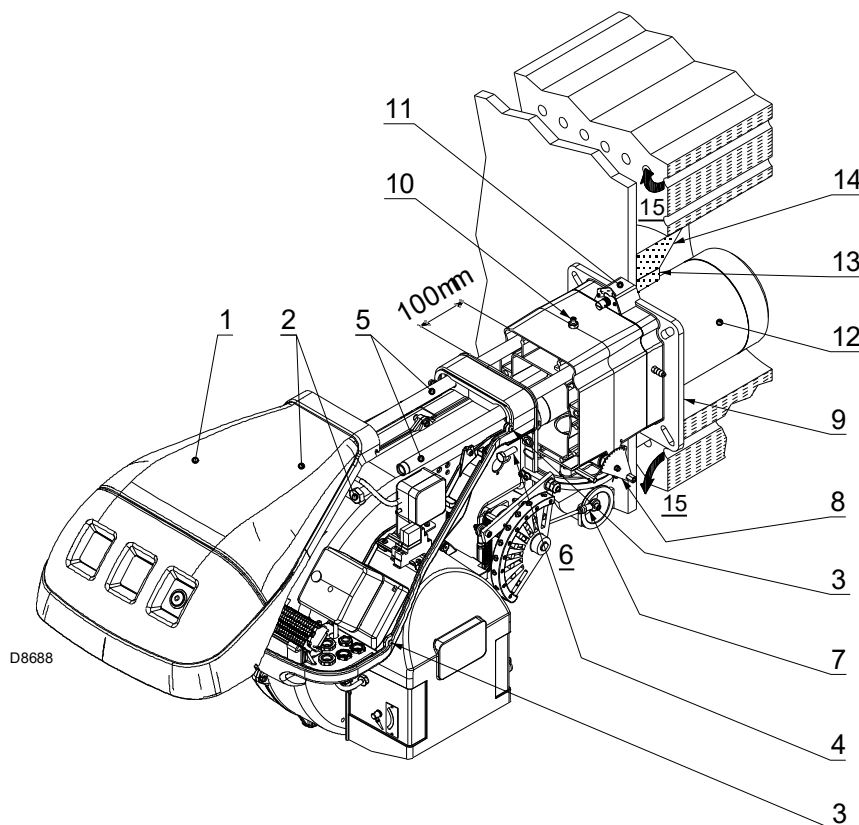
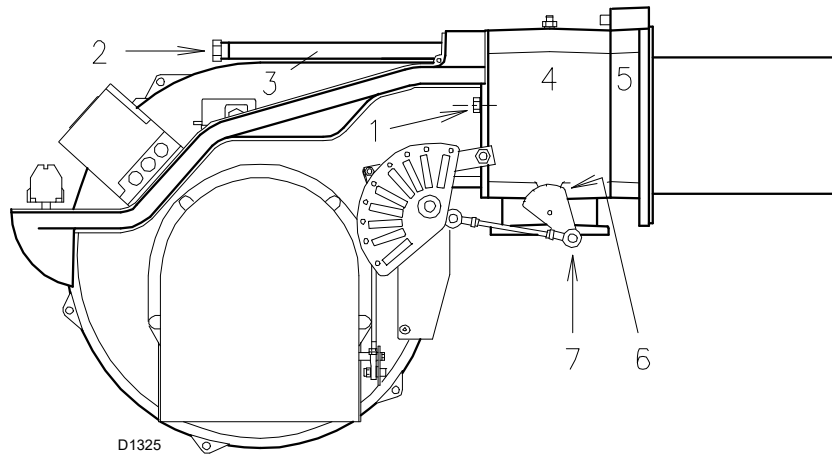

Fig. 11
Fig. 16
The length of the blast tube 12)(Fig. 11, page 15) must be selected according to the indications provided by the boiler manufacturer, and in any case must be greater than the thickness of the boiler door complete with its refractory.
For boilers with a front flue gas passes 15)(Fig. 11, page 15) or flame inversion chamber, a protection device in refractory material 13) must be inserted between the boiler fettling 14) and the blast tube 12).
Separate the combustion head from the rest of the burner, as shown in Fig. 11.
Once this operation (if necessary) has been carried out, fix the flange 11)(Fig. 11) to the boiler plate, interposing the insulating gasket 9)(Fig. 11) supplied.
- reassemble the burner on the guides 3)(Fig. 16), about 100mm from the pipe coupling 4) - burner in the position shown in Fig. 11;
- insert the probe and electrode cables, then slide the burner as far as the pipe coupling - burner in the position shown in Fig. 16;